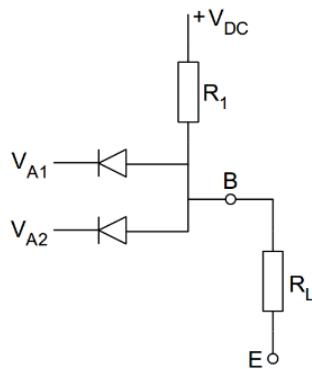

Figure 34: AND Logic Circuit
Using the nature of diode on and off, we could build a circuit which give the input and give output logic 0 or logic 1. The AND circuit is shown in Figure 34.
- (1) Set up circuit as Figure 34
- (2) Give the  $V_{DC}$  to 5 volts
- (3) Firstly, give  $V_{A1}$  and  $V_{A2}$  to 5 volts, then measure the output voltage  $V_{BE}$
- (4) Secondly, give  $V_{A1}$  0 volt and  $V_{A2}$  to 5 volts, then measure the output voltage  $V_{BE}$
- (5) Thirdly, give  $V_{A1}$  5 volt and  $V_{A2}$  to 0 volts, then measure the output voltage  $V_{BE}$
- (6) Fourthly, give both  $V_{A1}$  and  $V_{A2}$  to 0 volt, then measure the output voltage  $V_{BE}$